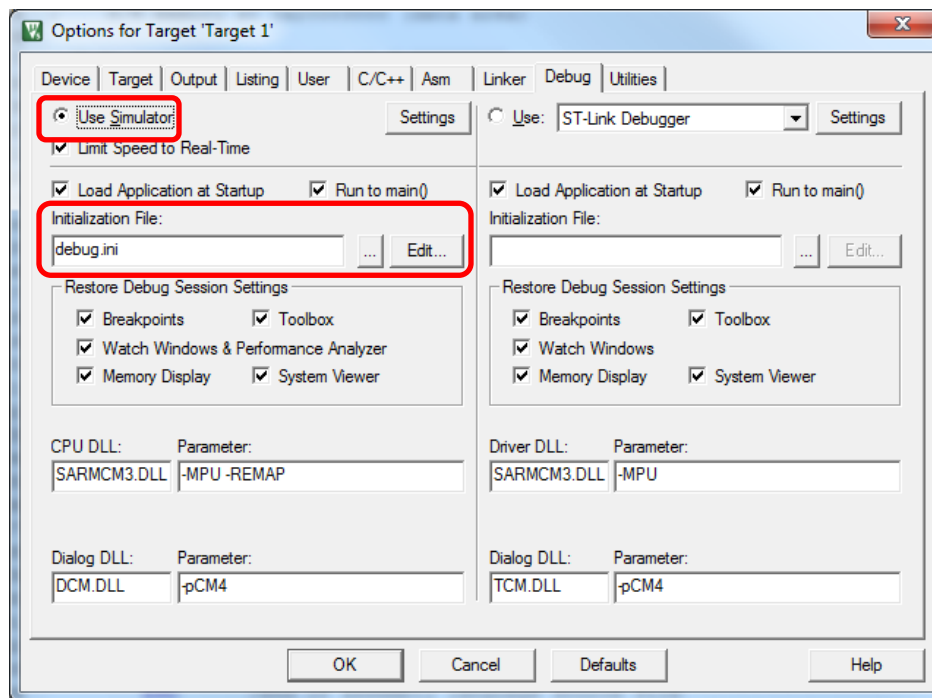

Figure 5. Target Options Debug tab. “Use Simulator” selected, and debug initialization file specified.
- Select the **Debug** tab (Figure 5) and check the **Use Simulator** button.
The following is a sample initialization file (*debug.ini* in Figures 5 and 6)